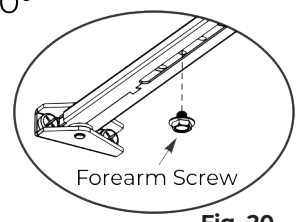

Fig. 20
4. While holding arm in position, secure rod to adjusting tube with forearm screw. (Fig. 20)